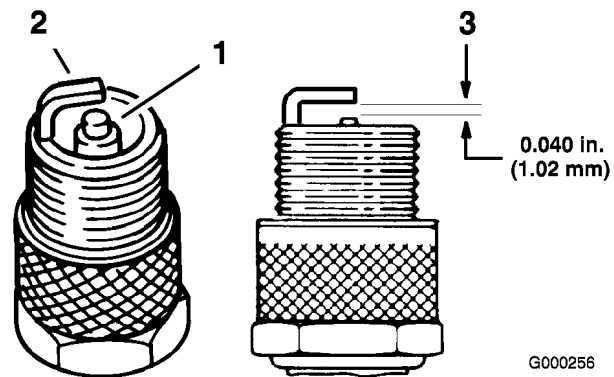

Figure 41
1. Look at the center of the spark plug(s) (Figure 41). If you see light brown or gray on the insulator, the engine is operating properly. A black coating on the insulator usually means the air cleaner is dirty.
2. Check the gap between the center and side electrodes (Figure 41). Bend the side electrode if the gap is not correct.